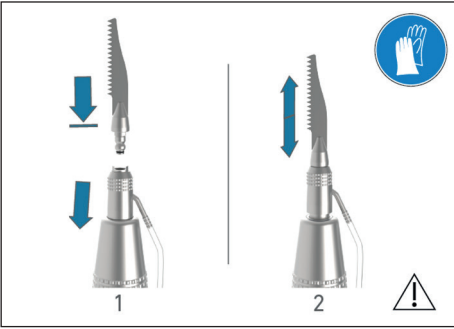

FIG. 1
- 1.Pull the clamping ring to the rear and gently insert the cutting accessory in the microsaw handpiece to the thrust stop. Then release the clamping ring, which should freely return to its initial position (FIG. 1, step 1).
- 2.Gently push and pull the cutting tool to check it is correctly attached (FIG. 1, step 2).